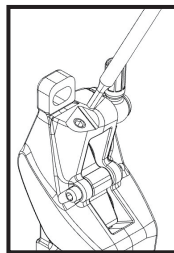

Fig 6
- Use a T15 Torx wrench to remove the bleed screw from the caliper. (Use a 7 mm box wrench to loosen the bleed nipple, if applicable.) **(Fig 6)**